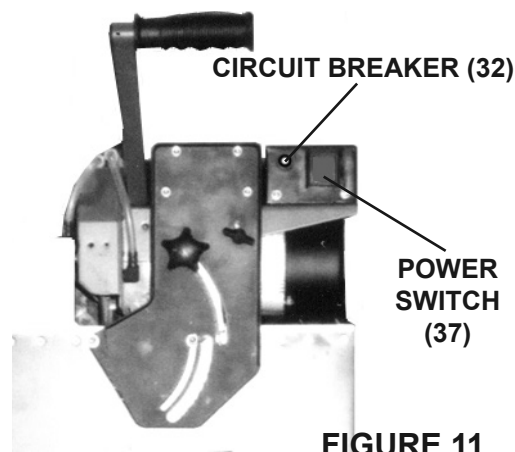
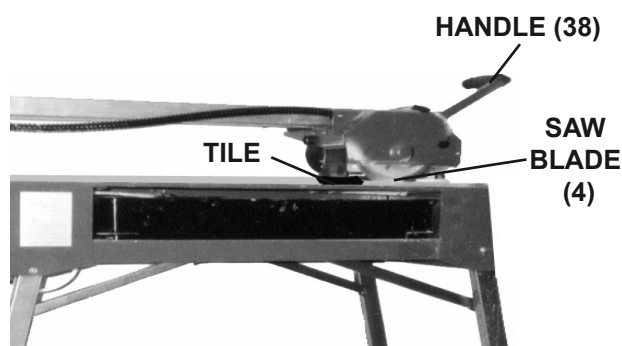

FIGURE 11
FIGURE 12
6. Turn the Power Switch (37) to its "ON" position, and allow the Saw Blade (4) to spin up to full speed. (See Figure 11.)
7. Hold the tile firmly against the Angle Cutting Guide and Scale Rail (49) with one hand. Always keep fingers a safe distance away from the Blade (4). With the other hand, hold the Handle (38) and slowly move the Saw Blade forward over the tile. (See Figure 12.)
8. Continue moving the Saw Blade (4) over the tile until the cut is completed. (See Figure 12.)
9. Once the cut is completed, turn the Power Switch (37) to its "OFF" position and allow the Saw Blade to stop on its own. Unplug the Power Cord from its electrical outlet. Then, remove the cut tile and debris from the Table (44). (See Figure 11 and Figure 12.)
10. NOTE: If the Motor of the Tile Saw stops suddenly while cutting, turn the Power Switch (37) to its "OFF" position. Wait approximately 5 minutes. While making sure your hands are dry, reset the Circuit
Breaker by pushing in the button. Then, turn the Power Switch to its "ON" position to resume cutting. (See Figure 11.)